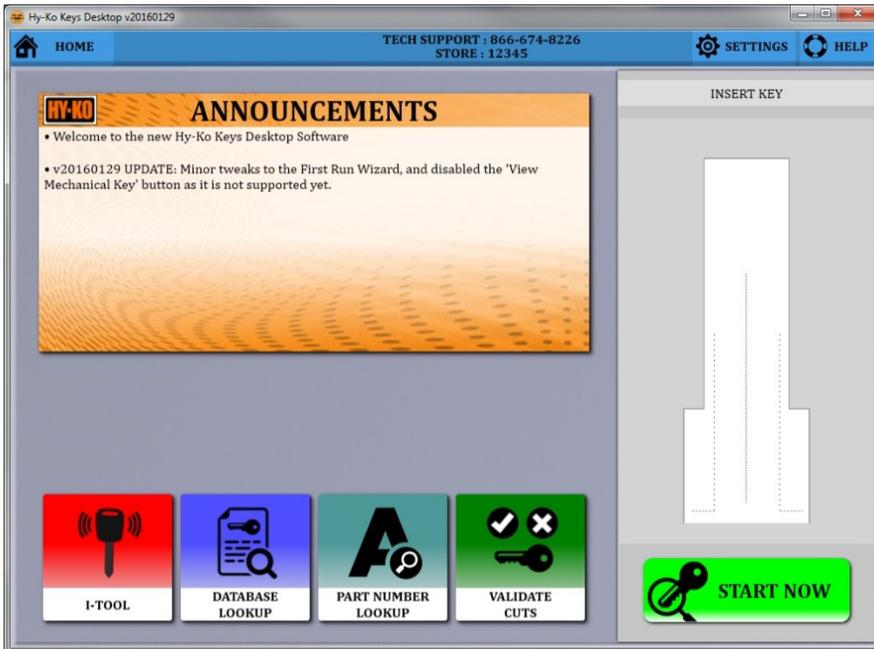

fig. 44
- To scan a key you want to start on the Home Screen. If the software is not on the Home Screen click **‘HOME’** in the upper left corner of the screen (see fig. 44).